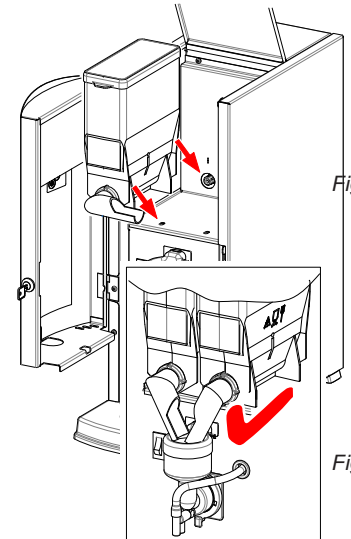

Fig. 27
3. Place the canister(s) back into the machine in the right order. Make sure that the drive mechanism of the canister falls over the cog in the back wall and that the fastening ridge goes into the hole of the plate (fig. 27).